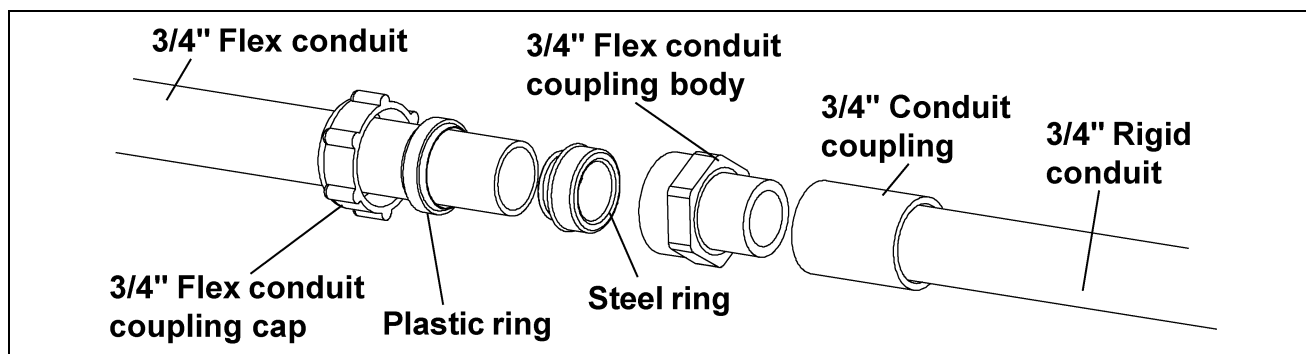

Figure 5AA
4. Thread a steel ring into the 3/4" flex conduit. (See Figure 5AA.)
5. Thread the 3/4" flex conduit coupling cap onto the 3/4" flex conduit coupling body. (See Figure 5AA.)
- D. Attach the 3/4" x 12" liquid-tight flex conduit to the other end of the rigid conduit using one 3/4" conduit coupling and one 3/4" liquid-tight flex conduit coupling. (See Figure 5AB.)